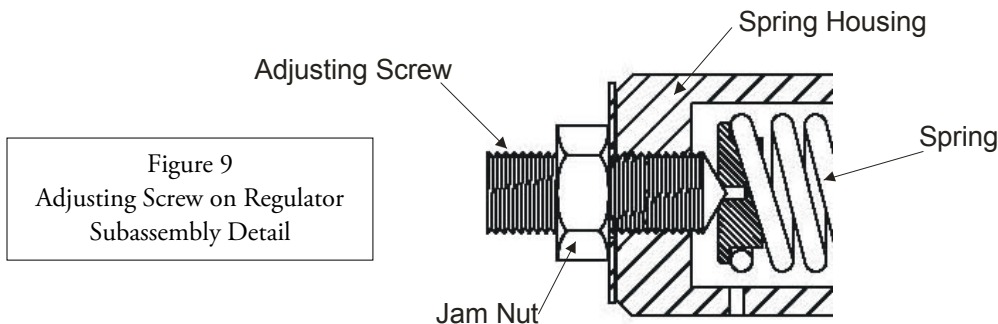

Figure 9
23. Loosen the jam nut on the adjusting screw (Figure 9).